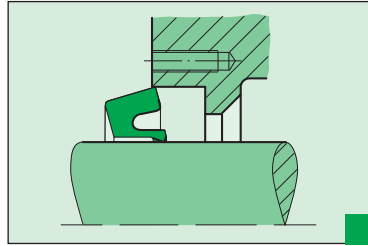
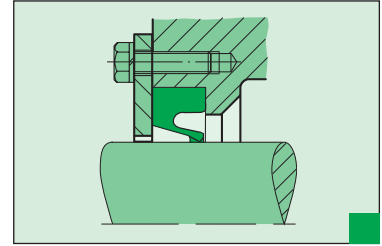

Fig. 1
Fig. 2
- In the case of horizontal shafts the split must be positioned at 12 o'clock. In tandem arrangements the joint must be positioned at 11 o'clock / 1 o'clock. First the split must be placed in the housing recess (see Figure 1). Then the seal must be pressed slowly in to the housing recess. Then the retainer ring must be fitted and tightened (see Figure 2). After installation check that the sealing lip sits snugly in position all around the shaft.